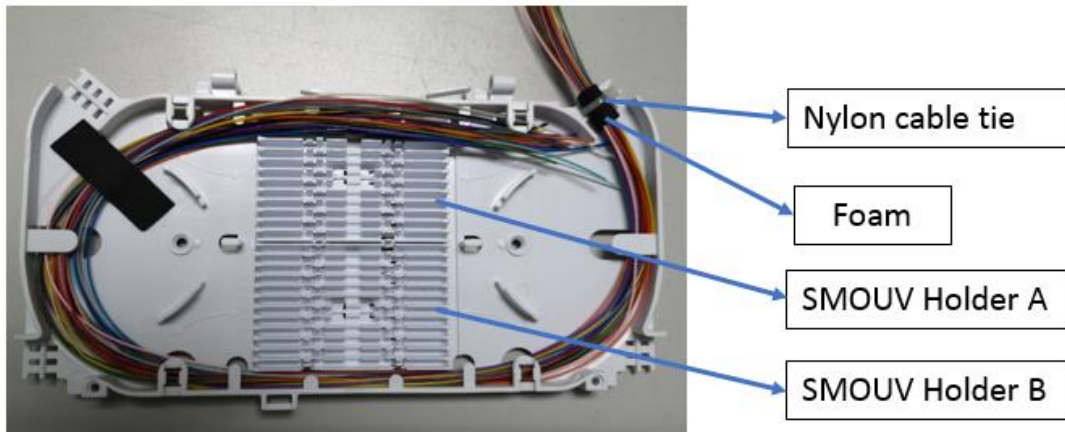

Figure 5
3. Using the provided nylon tie wrap, loop it through the slot in the tray and around foam. Tighten cable tie for fixture. Make sure the head of the cable tie is on the bottom side of the foam, as Figure 5.
4. Route fibers in the tray, use foam to hold it temporary if needed as Figure 5. While splicing, first batch